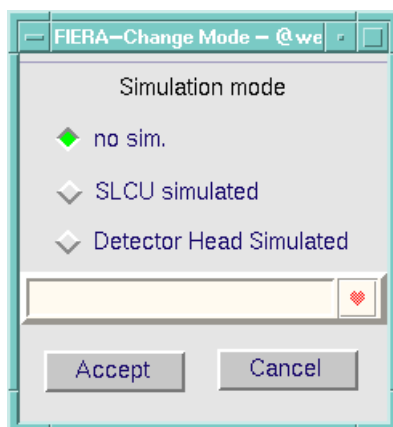

Fig.10 Change Operational Mode panel
- c. Push the button *Change Mode* (area *CCD System*). The panel *Change mode* (Fig.10) pops up
Changing the operational mode is allowed ONLY when the system state is OFF (see 8.7). The desired operational mode has to be configured in the local database (both in the WS and SLCU!) before start-up (see panel *CCD Change Mode* Fig.10 and section 8.8.3).